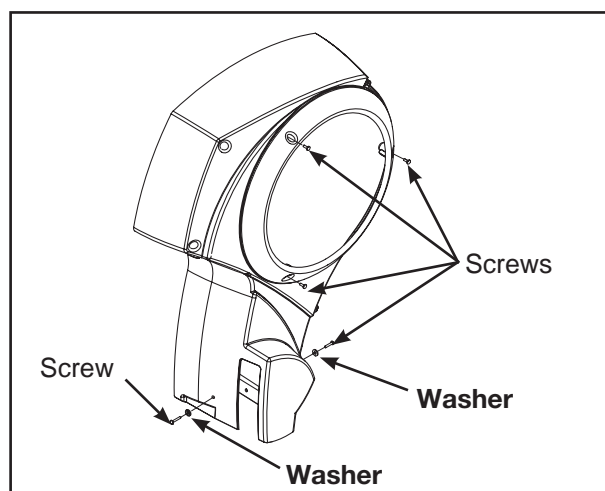

Figure 9
A. Using a long phillips screwdriver remove five screws and two washers securing right shroud cover in place. See Figure 9.
- A. Using a Phillips head screwdriver install the five screws and two washers (removed in step 17A) securing right shroud cover in place. See Figure 9.